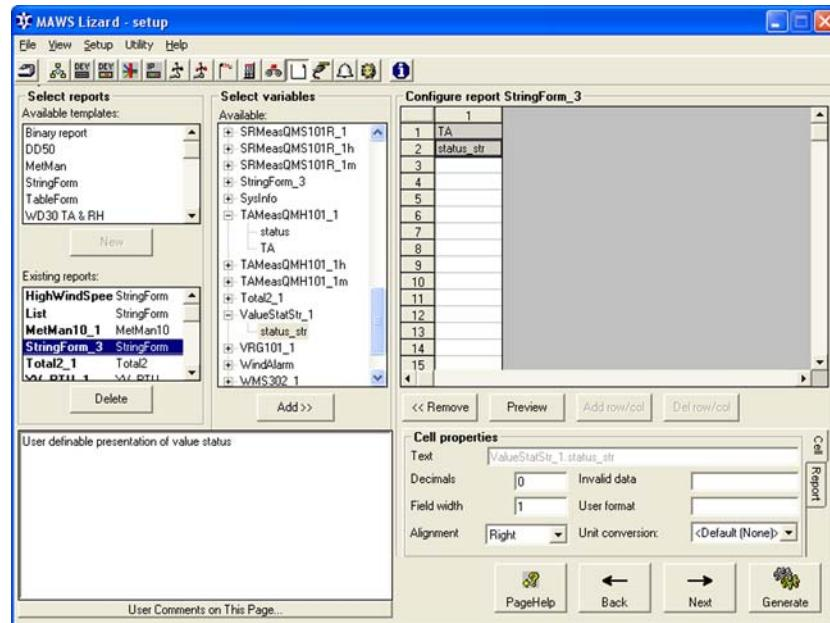

Figure 31 Reports View: Selecting status_str to a Report
2. When the status string is needed, select **status_str** from the **Available** list as shown in Figure 31 on page 83. The **status_str** field is created for a report.